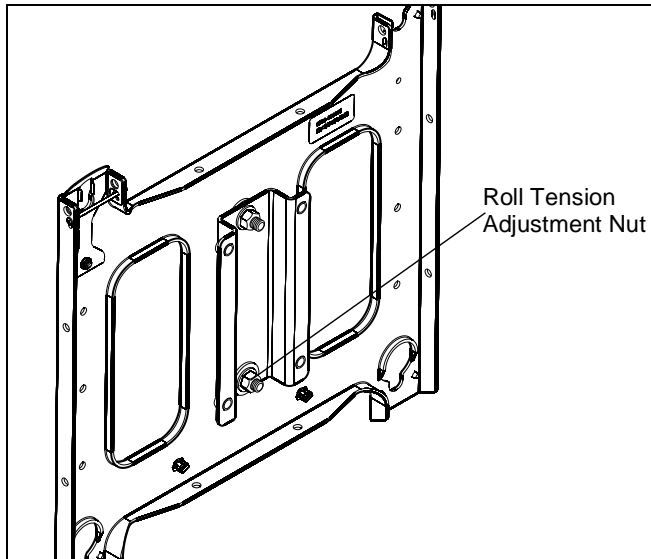

Figure 8
3. Locate roll tension adjustment nut on back of faceplate. (See Figure 8)